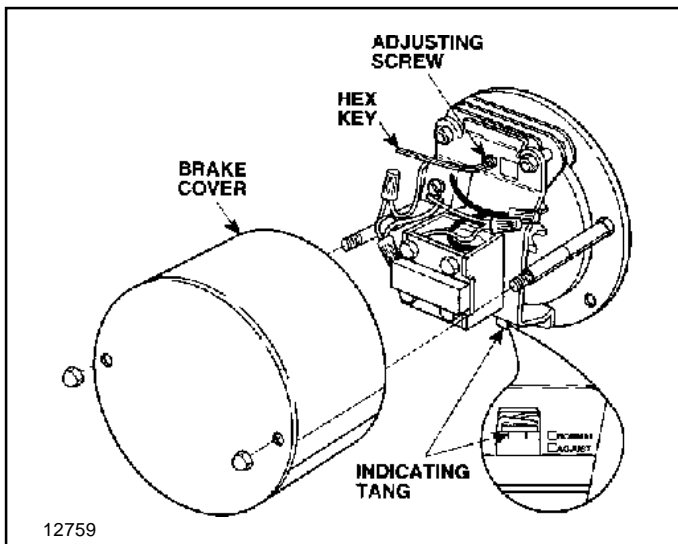

Figure 7-1. Motor Brake - Early Version.
a. Examine position of indicating tang located below the solenoid coil (Figure 7-1 or 7-1A).
c. On the early version of the brake (Figure 7-1), if the tang is below the midway position of the two adjustment points shown on the brake, the brake should be adjusted to bring the tang back up alongside the NORMAL position on the brake.
d. Remove the hex key (1/8" size) from the holster on the cover mounting stud and carefully turn the ADJUSTING SCREW (located above the solenoid coil) clockwise. The indicating tang will move a large distance for a small turn of the adjusting screw, therefore turn the screw no more than one quarter turn before checking adjustment.